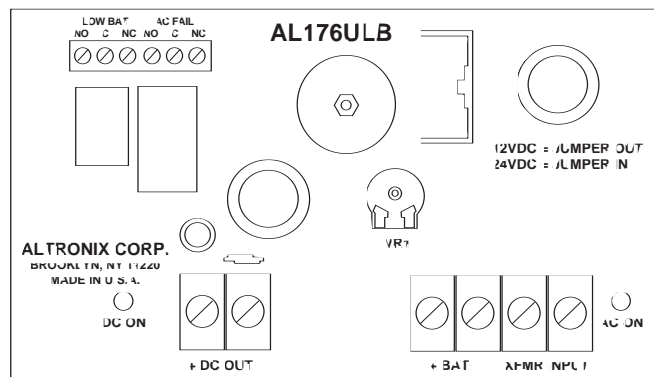

Fig. 1
4. Connect battery to terminals [+ BAT -] as marked on the unit (battery leads included). Use two (2) 12VDC batteries connected in series for 24VDC operation.
6. Connect devices to be powered to terminals marked [ + DC -- ] (*Fig. 1*).